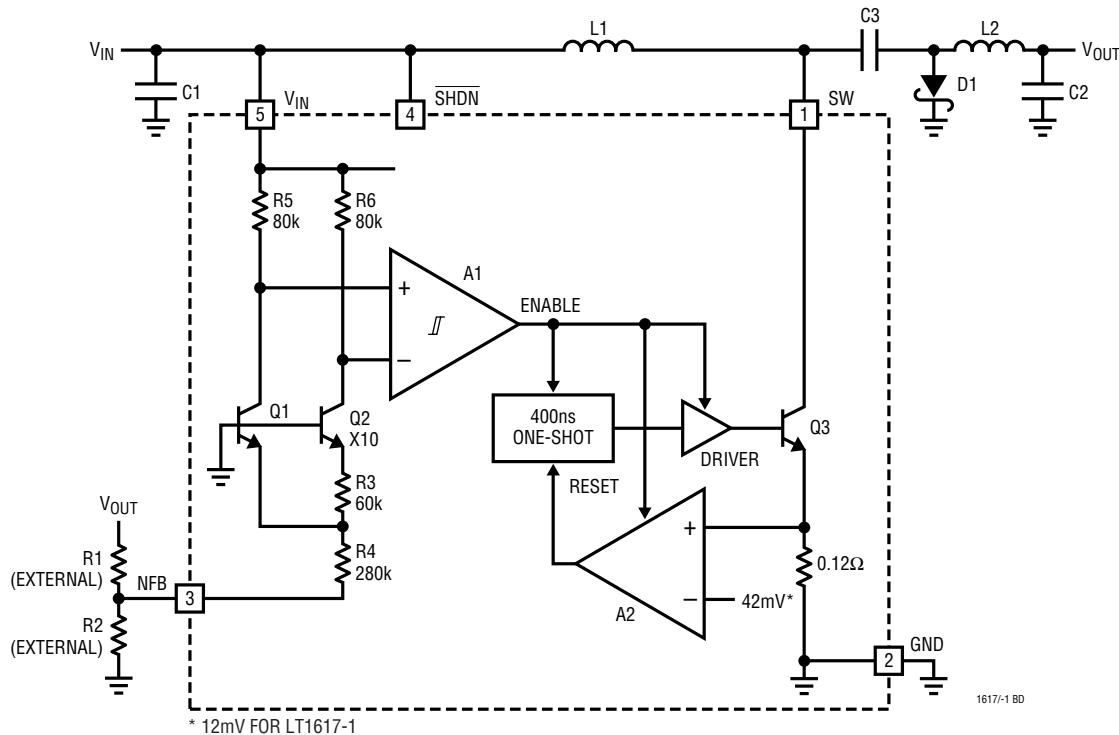

Figure 1. LT1617 Block Diagram
**NFB (Pin 3):** Feedback Pin. Set the output voltage by selecting values for R1 and R2 (see Figure 1):
The LT1617 uses a constant off-time control scheme to provide high efficiencies over a wide range of output current. Operation can be best understood by referring to the block diagram in Figure 1. Q1 and Q2 along with R3 and R4 form a bandgap reference used to regulate the output voltage. When the voltage at the NFB pin is slightly below  $-1.23V$ , comparator A1 disables most of the internal circuitry. Output current is then provided by capacitor C2, which slowly discharges until the voltage at the NFB pin goes above the hysteresis point of A1 (typical hysteresis at the NFB pin is 8mV). A1 then enables the internal circuitry, turns on power switch Q3, and the current in